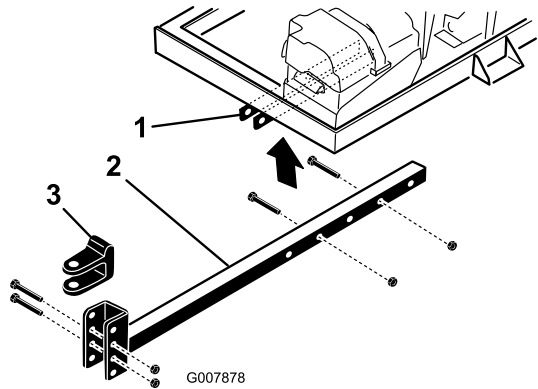

Figure 4
2. Insert the hitch tube into the frame brackets (Figure 4).
- Remove the bolts and locknuts securing hitch clevis (Figure 4) to hitch tube.
- Remove the bolts and nuts securing the hitch tube to frame brackets (Figure 4).